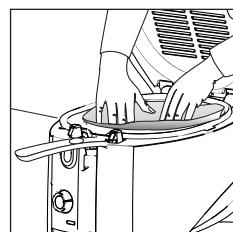

fig. 11
8. Put the basket back in the high position and place one of the filters (optional) at the bottom of the basket (fig. 11). You can obtain the filters from your retailer or one of our Customer Experience Team. See enclosed guarantee leaflet.